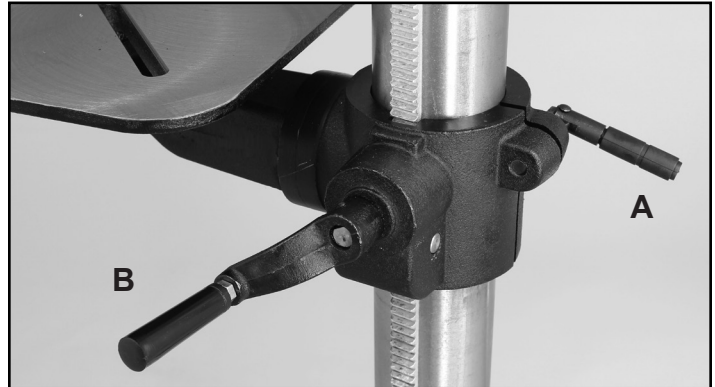

FIG. 13
1. *TO RAISE OR LOWER THE TABLE* along the column, the Locking Handle (#12, on Parts Diagram A) must be loosened. FIG. 13, A.